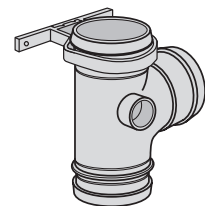

Fig. 8c 143 Bracket anchoring fitting
**Step 2** – Secure bracket to wall with rust-proof fixings so that bracket clamps onto fitting and creates a fixed point (Fig. 8c)